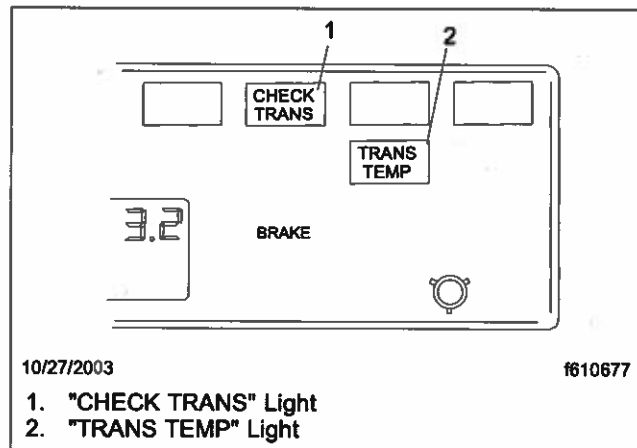

Fig. 8.24, Telltale Lights
1. With the parking brake set and/or the brake pedal pressed down, select neutral (N) by moving the selector switch to the center position.
2. With the transmission in neutral, turn on the ignition switch. The "CHECK TRANS" and "TRANS TEMP" telltale lights come on and go out again (bulb check). See **Fig. 8.24**.